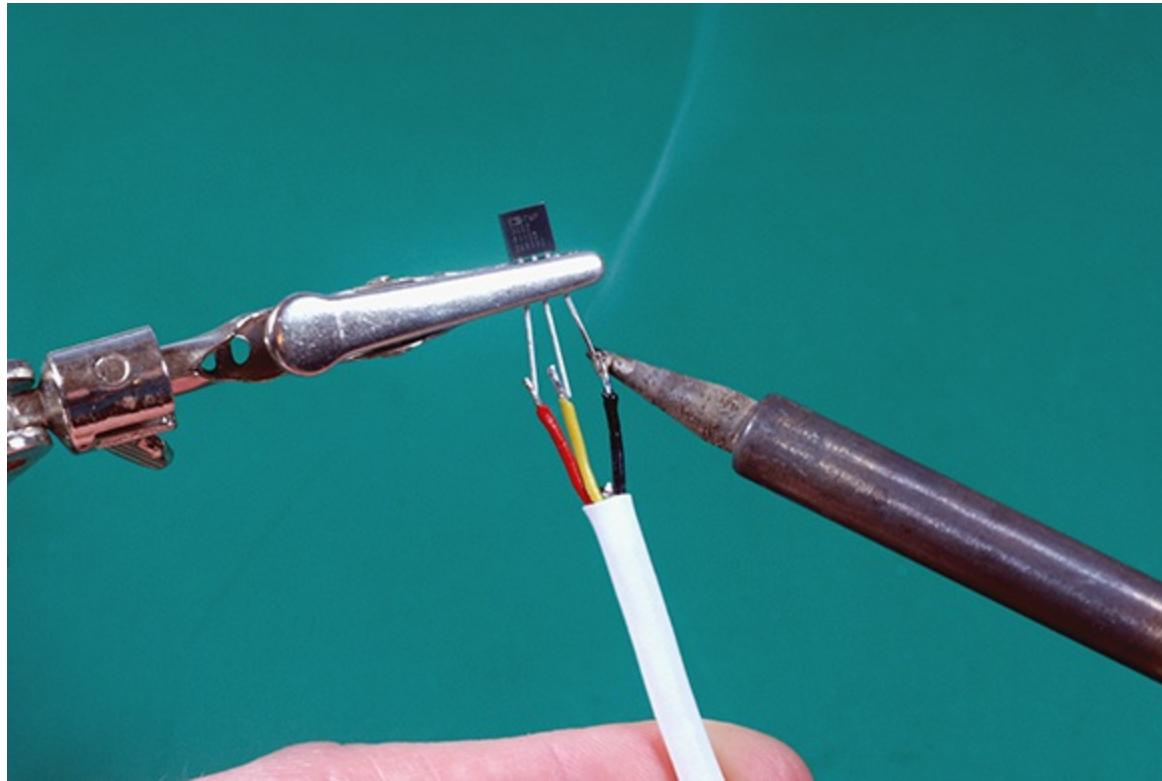

Figure 12-5: Soldering your temperature sensor.
- 4. Splay the legs of your TMP36 and solder your three wires to its legs, as shown in Figure 12-5. With the flat face of the sensor toward you, the order to solder, from left to right, is: positive wire, signal wire, negative wire.**